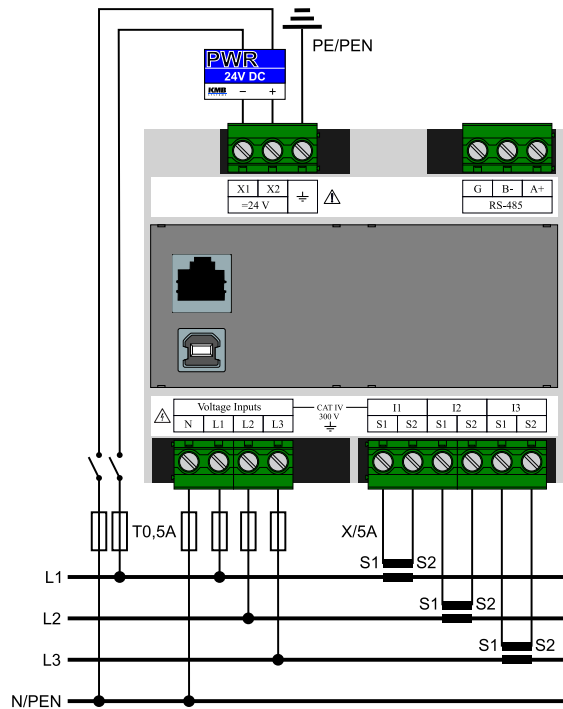

Figure 5: An example of a typical connection of ARTIQ 233 in a LV network - wiring a measured voltage to a star in a four-wire network.
Option „X/5A“ The secondary CT winding of nominal 5 A or 1 A must be fed to the terminals S1 and S2 of the current inputs I1, I2 and I3. Figure 5 illustrates the correct connection with the CTs in the LV network.
- For direct measurement (see eg Fig. 5 set the multiplier value to 1 — default value.